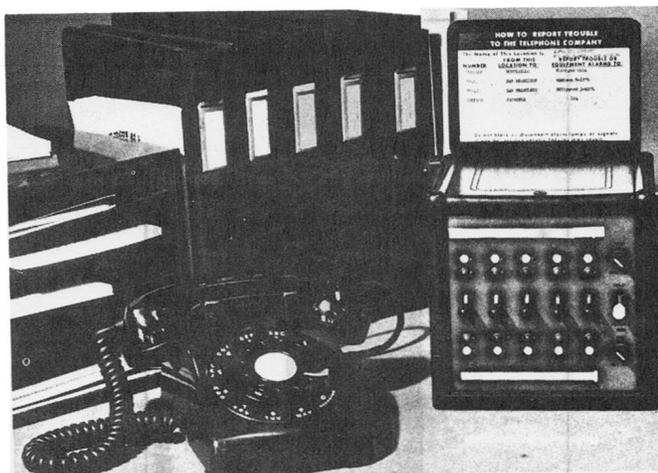

Figure 9-B - Form P-2242
6.08 Form P-2242, (see Figure 9-A) is similar to form P-2243 but smaller and will mount in the 8B-3 card holder. The 8B-3 card holder normally fastens on top of a horizontal surface, but the mounting foot can be bent to the desired angle and mounted to a key equipment box (see Figure 9-B) or the card frame removed from the mounting and fastened to a wall or equipment panel. The form can also be placed under the plastic key shelf bulletin holder as shown in Figure 6-B.